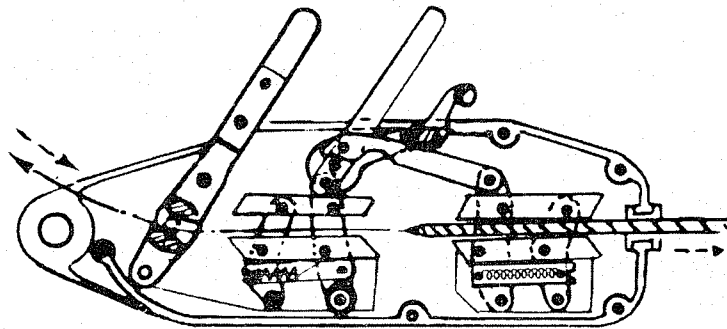

Fig1. Rope reeving and Rope receiving:
1.Reeve : (Fig.1) With the rope head downward and pressing the hoister, push the relaxed handle .When hearing the soundclick,pliers mouth has been opened. Then you can teeve the wire rope from the back hole to the hoister.After the rope is out,the rope can be pulled to the length that you need and then push the relaxed hanele back to clamp the rope tightly. When the forward handle or the backward handle pulled, the wire rope will automatically go into or come out of the hoister. Thus, the machine is in the normal state and it is ready to be used.
(4.) Draw the rope out (Fig. 1): Having finished the work, the pliers mouth will be opened as soon as the relaxing handle is pushed and then the wire rope can be drawn out of the end of the hoister. Clean the dirt on the rope, wind it onto the reel cross in good order to be ready to use next time.